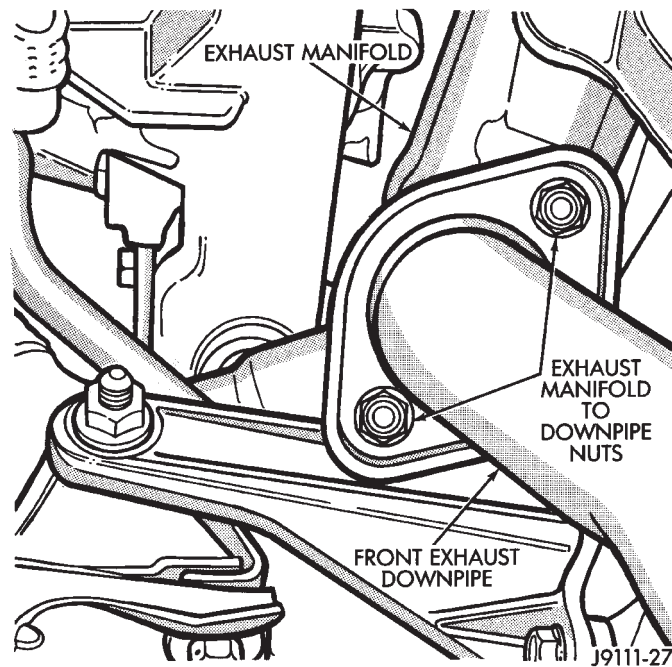

Fig. 1 Exhaust Pipe-to-Engine Exhaust Manifold Nuts
- (1) Raise and support the vehicle.
- (2) Saturate the bolts and nuts with heat valve lubricant (Fig. 1). Allow 5 minutes for penetration.
(1) Assemble exhaust pipe to manifold and catalytic converter loosely to permit proper alignment of all parts.
(2) Use a new clamp and tighten the nuts to 61 N·m (45 ft. lbs.) torque.
(3) Connect the exhaust pipe to the engine exhaust manifold. Install a new seal between the exhaust manifold and the exhaust pipe (4.0L engine, only). Tighten the nuts to 31 N·m (23 ft. lbs.) torque (Fig. 1).